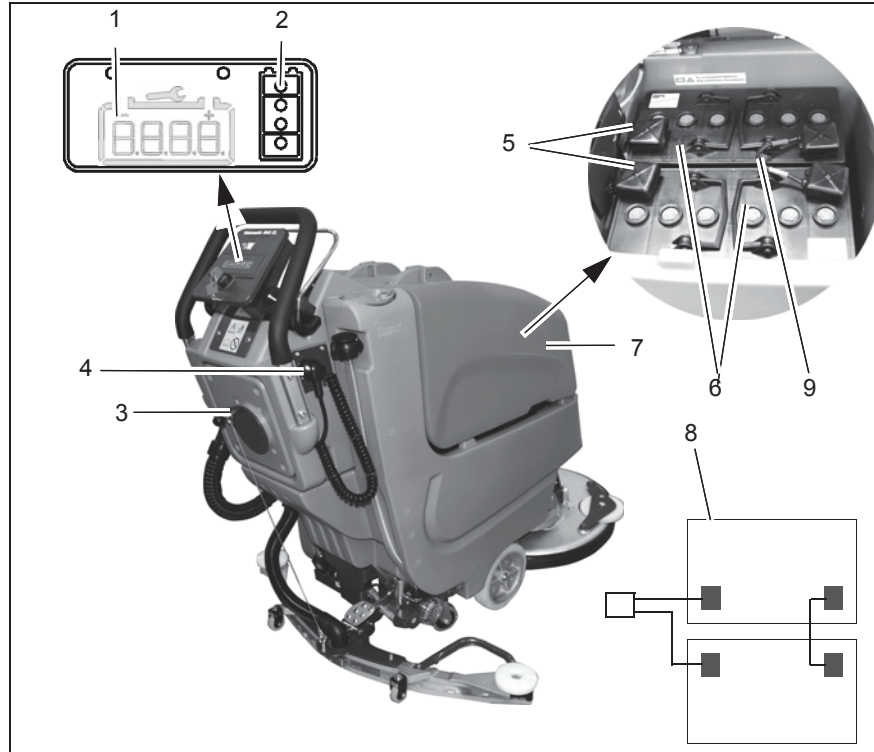

Fig.11
Before charging the battery, wait until at least one charge status indicator bar has extinguished after operating the machine. The battery is charged by the integrated on-board charger (Fig. 11/3):
2. Remove the power plug (Fig. 11/4) from its receptacle on the right-hand side.
Charging will start automatically. The charge mode indicator (Fig. 11/2) shows the progress. Pay attention to
Check the indicator field (Fig. 11/1) for the current charge status of the batteries during operation. The charge status indicator is connected to a total discharge signal transducer (TSG) in the machine control unit. Four segments on the display are indicative of the batteries being fully charged. The segments extinguish one by one as more power is drawn from the batteries. At the discharge limit, the battery icon starts to flash and the TSG turns off the cleaning functions to prevent total battery discharge (machines with a traction drive can still be moved at reduced speed). Charge the batteries immediately!